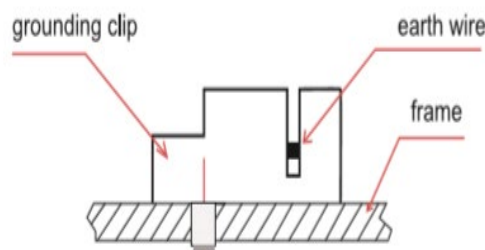

Figure 2
- As shown in the **figure2**, the grounding clip assembly consists of a slider, base, and self-captivating thread-cutting screw or 8-32 screw and hex nut. The grounding clip accepts solid uninsulated copper wire sizes 10 or 12 AWG.